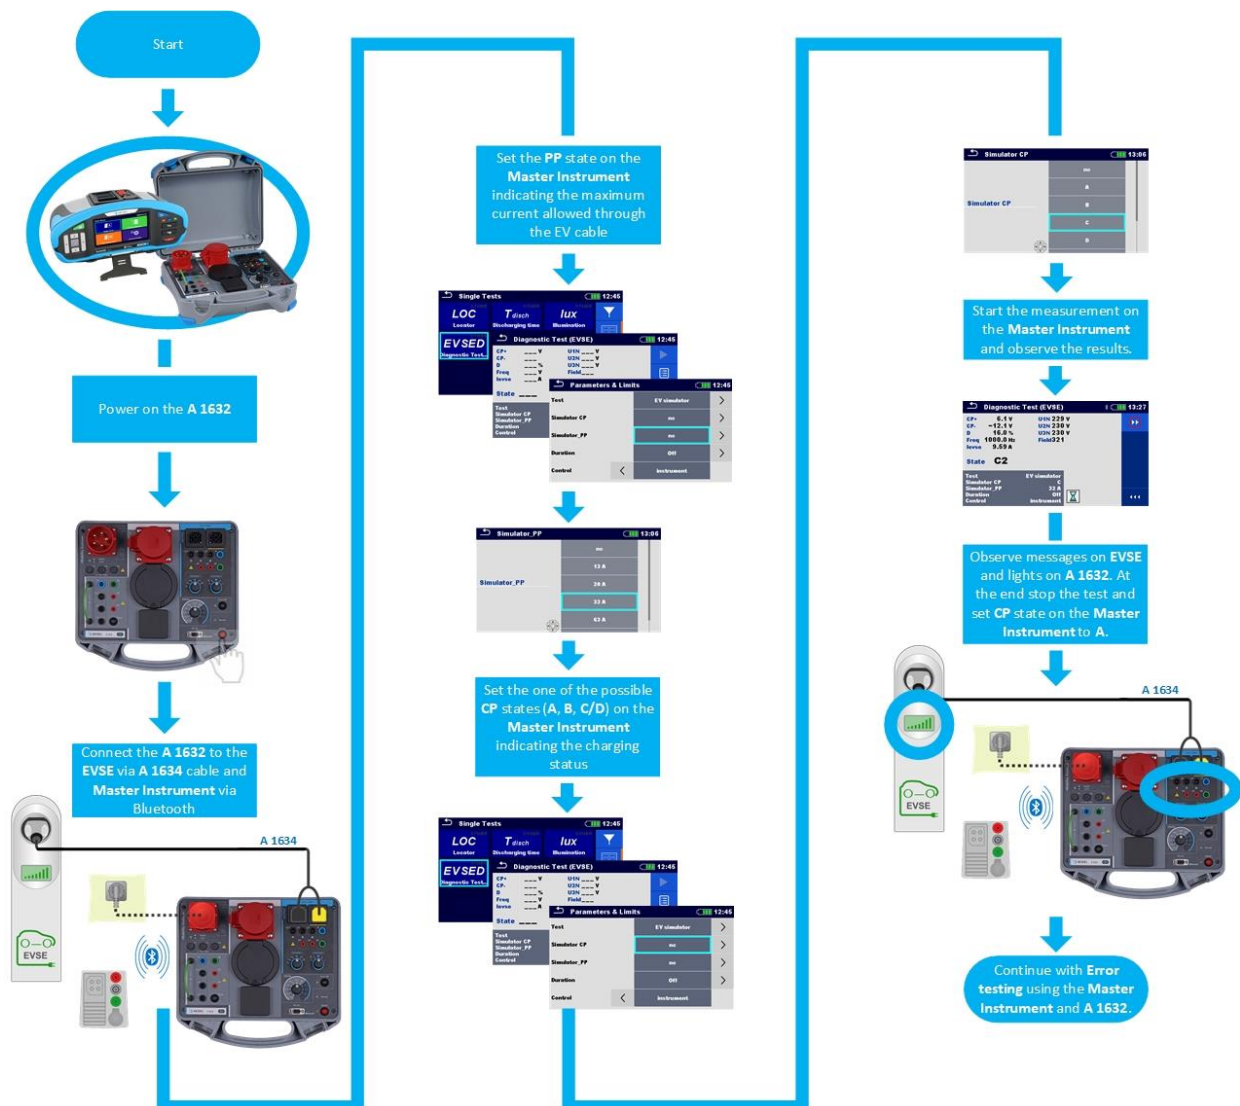
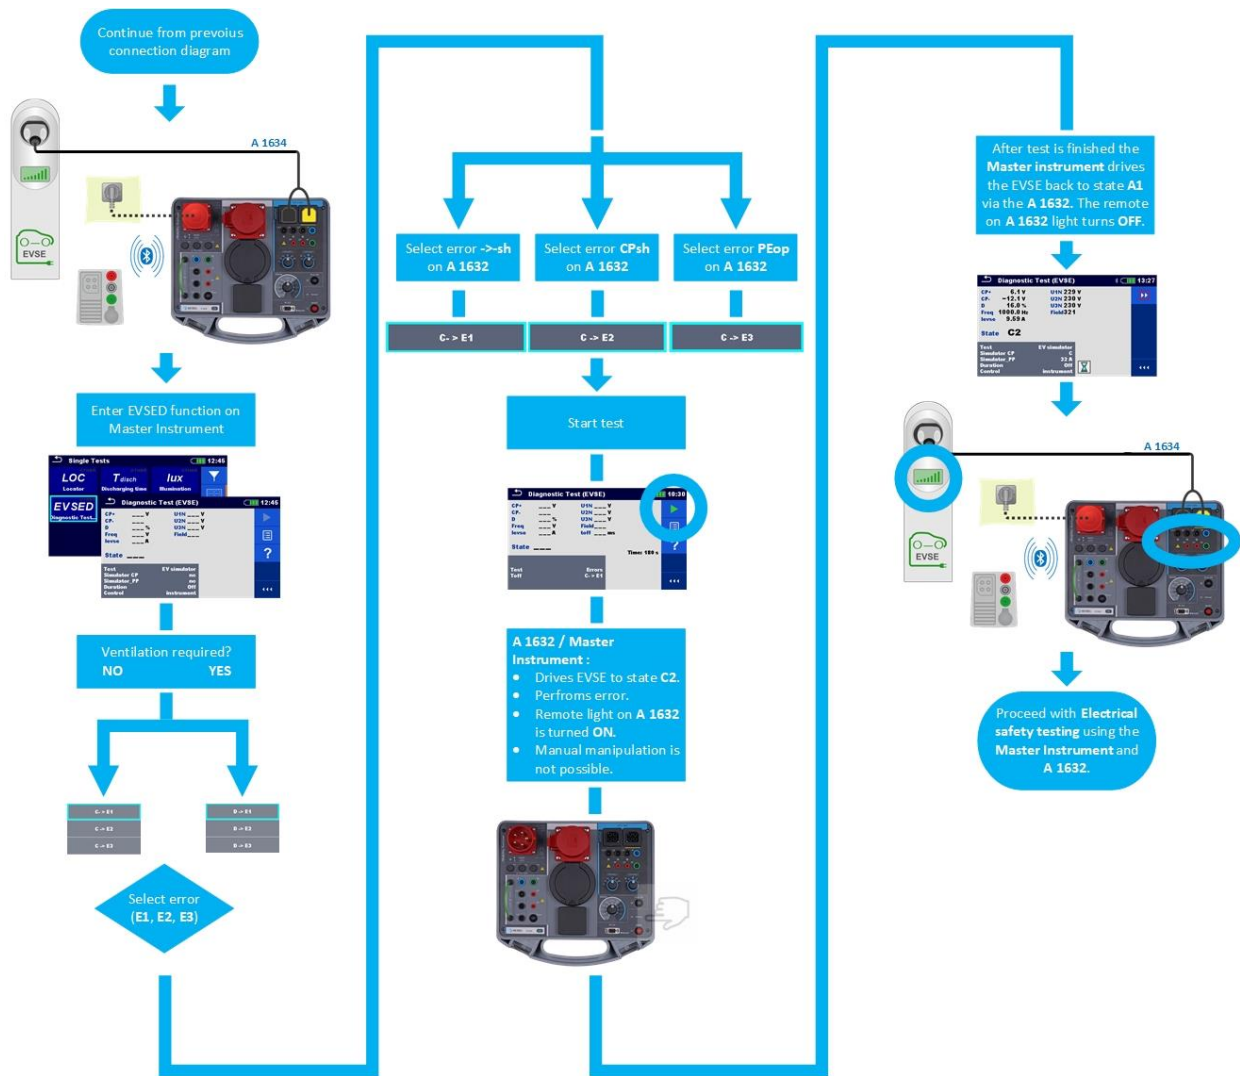

Figure 6.5: Semi-automated functional testing
Figure 6.6: Semi-automated diagnostic testing
If the purpose is to test whether or not the EVSE reacts accordingly to initiated electrical vehicle (EV) states, error situations and save the results, then the use of semi-automated functional and diagnostic testing procedures is the way to go. In this case follow the procedures described in Figure 6.5 and Figure 6.6.
Figure 6.6 shows how to select an error on the Master Instrument. After selecting an error (e.g. C → Err1) and upon pressing the start button on the Master Instrument, the remote light on the A 1632 will be turned on and the A 1632 will drive the Mode 2 cable or the EVSE to state C. The Master Instrument will wait additional 5 seconds before initiating an error on the output side of the A 1632 to make sure that the EVSE charging station reached state C. After the time will expire, the error will occur on the output side causing the EVSE to disconnect the power. The Master Instrument will record the last states of the CP+, CP-, duty cycle... and measure the disconnection time (toff). The user then has the capability to choose between PASS and FAIL of the test. Once confirmed the test is stopped and the possibility to save the results is presented.